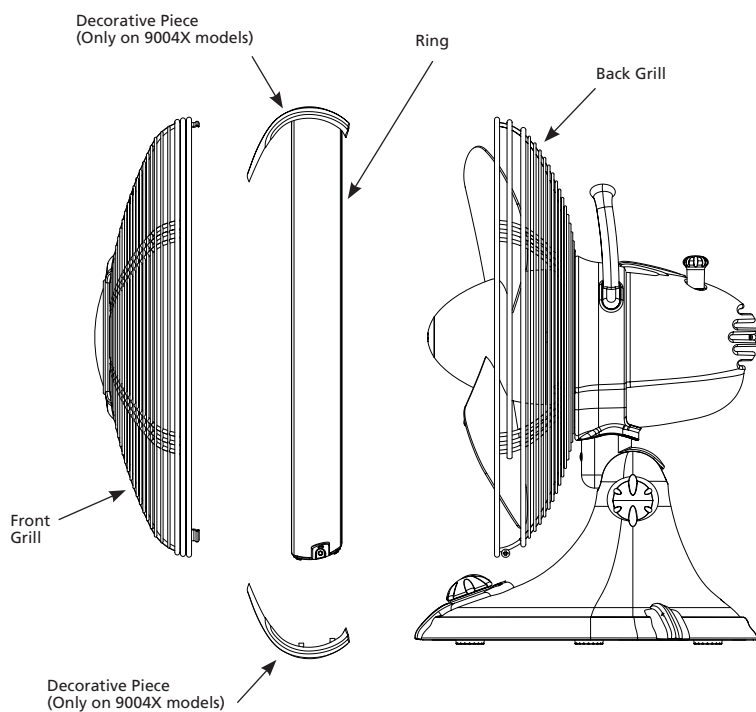

FIGURE 5
3. Remove the ring, lower decorative piece (only on 9004X models), and front grill. See Figure 5.